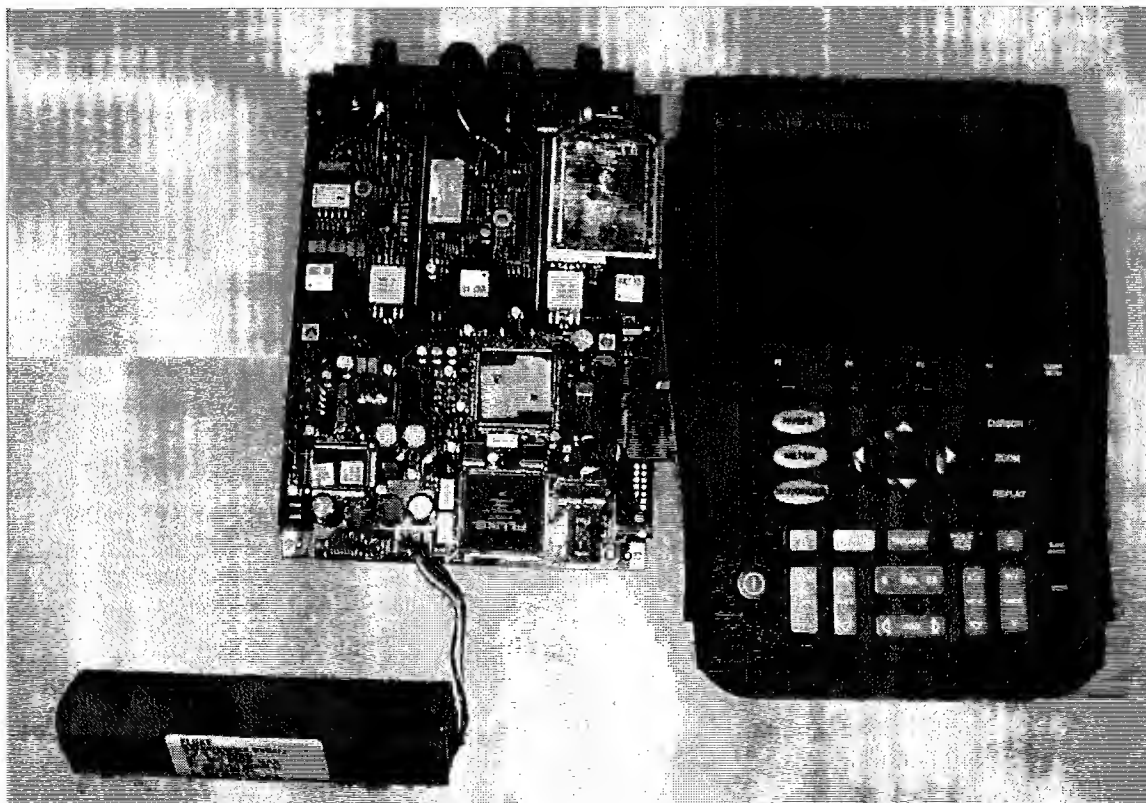

Figure 7-1. Operative Test Tool without Case
2. Connect the Display Assembly flat cable, the Backlight cable, and the Keypad Foil flex cable to the Main PCA unit. The test tool without the case is operative now. Figure 7-1 shows the operative opened test tool with removed metal shielding of the Channel B and of the Meter input circuit.